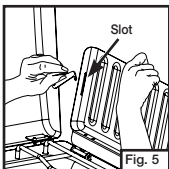

Fig. 5
- Insert the wind guard holder into the slot on the wind guard. (Fig. 5) Repeat on the other side.